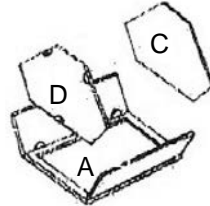

Figure 4
3. Installing the Top and Bottom (Figure 4): Gently spread side panels and insert top (D) and bottom (C) into the grooves of side panel (B) until it touches the face frame (A). Well align it and lock each cam.